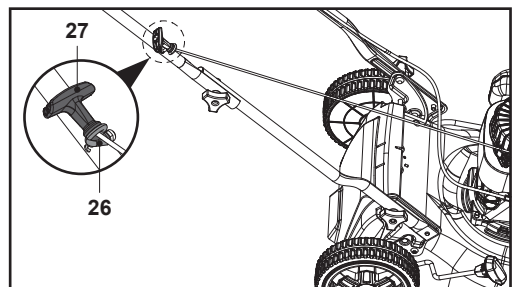

Fig. 12
3. Always rest the recoil starter handle (27) onto the hook (26) located on the right-hand side of the upper handle bar (4) (Fig. 12) when the recoil starter is not operated.